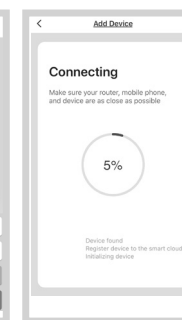

Fig. 10
6. This will start the set-up process, which may take some time (Fig. 10).
- When attempting to connect to the device (Fig. 10), try to manually connect to its Wi-Fi network.